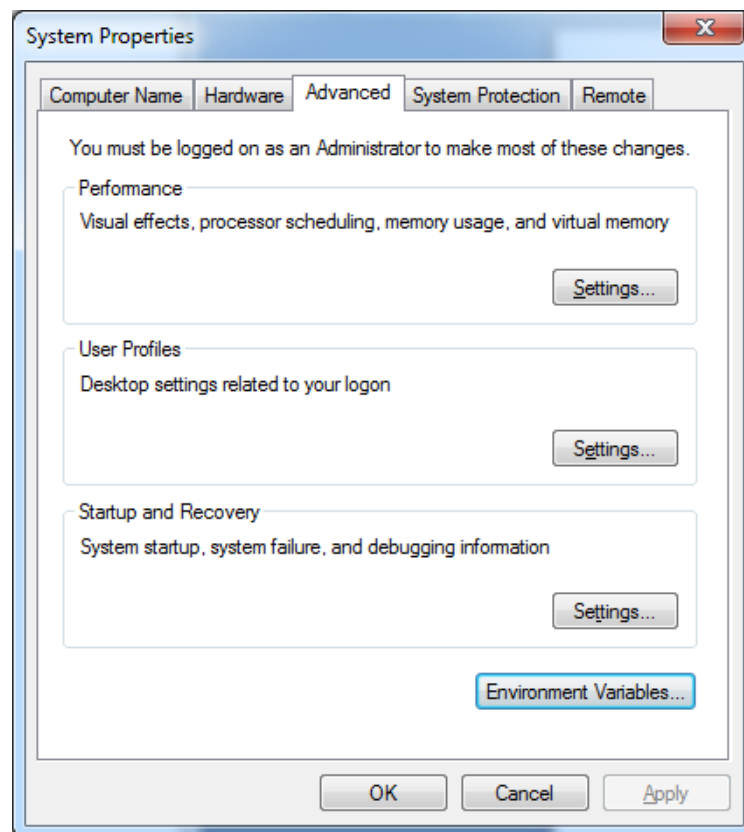
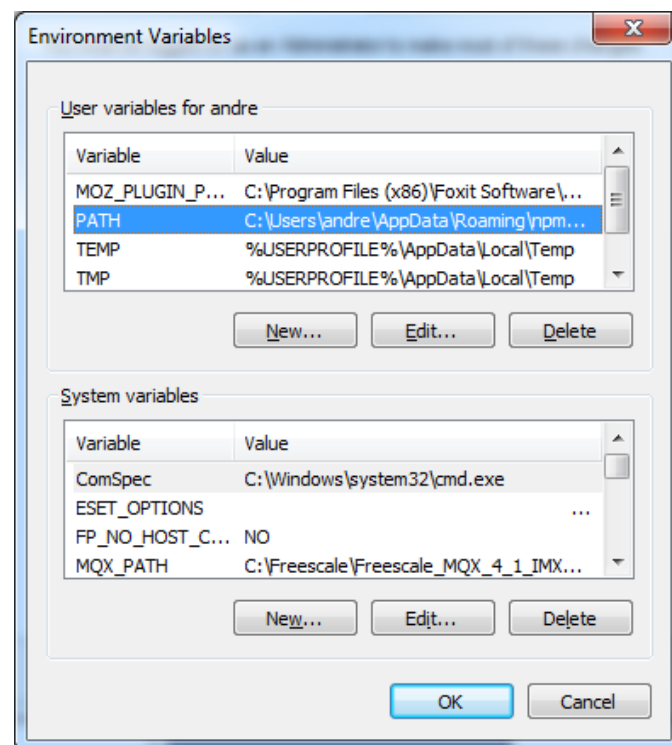

Figure 17 - System Properties in Windows
Figure 18 - Environment Variables in Windows
- b. To permanently add MinGW to PATH open System properties by (this applies for Windows 7) right clicking on Computer in an Explorer window and then select Properties. Click “Change settings” and then the Advanced tab as shown in Figure 17. Click on the “Environment Variables” button and edit the PATH variable as shown in Figure 18.
- a. Click the "New" button below "System variables" as seen in Figure 18.